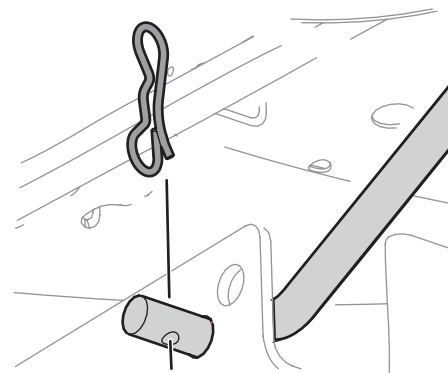

Figure 4-5
- Pull the bow-tie pin out of the front deck lift rod securing it to the deck. See Figure 4-5. Slide the deck lift rod out of the front hanger bracket.